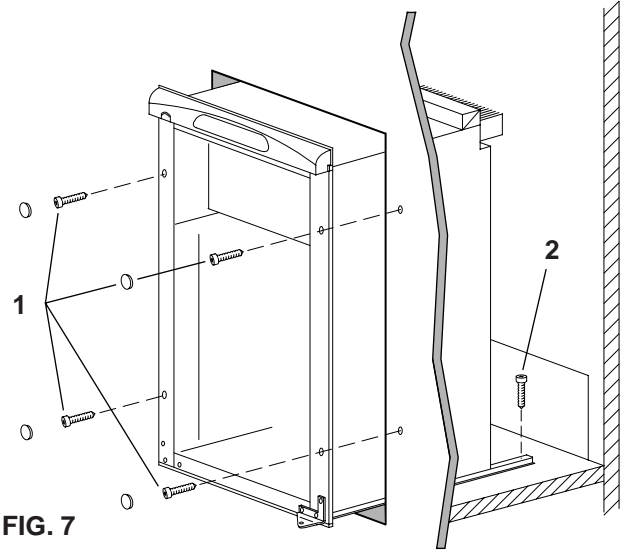

FIG. 7
STEP 1: Four screws installed through the front frame. See fig. 7.
STEP 2: One screw installed in rear base. See fig. 7. In the parts bag there are plugs to be snapped in the front frame to cover the four screw heads.